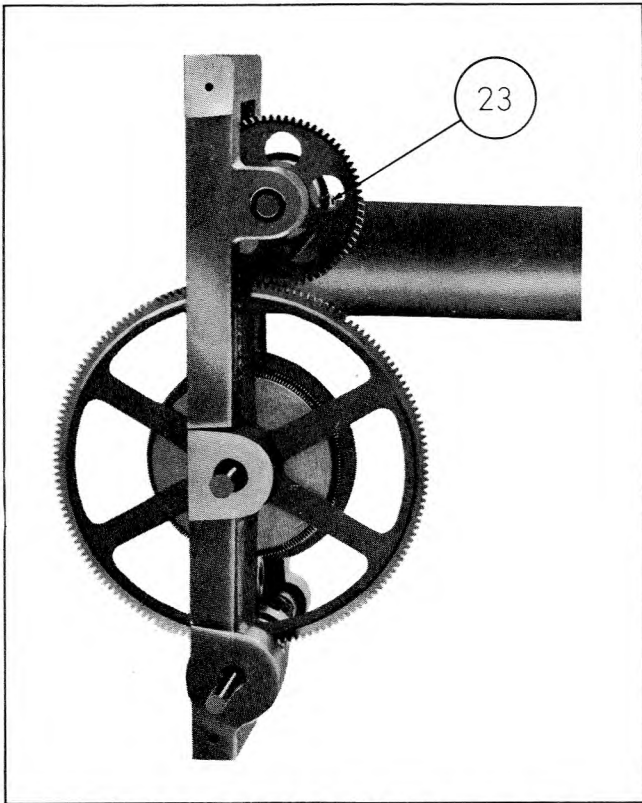

Figure 4-15. Front View of Assembled Drive
when looking at the front edge of the casting. The small spur gear can be seen in figure 4-15 in proper position with a #4-40 screw (23) inserted in the hole. Then mesh the large spur gear (21) with the top and bottom gears in such a way that the 4-40 tapped hole in the hub of the gear will be at 10 o'clock. Put the $5/16$ " diameter shaft (20) through the bearing and gear hub, place cam (22) on shaft and tighten set screws in hub of gear so that the shaft extends $11/16$ " from the face of the casting. It is not necessary to tighten the set screws in the cam at this time.